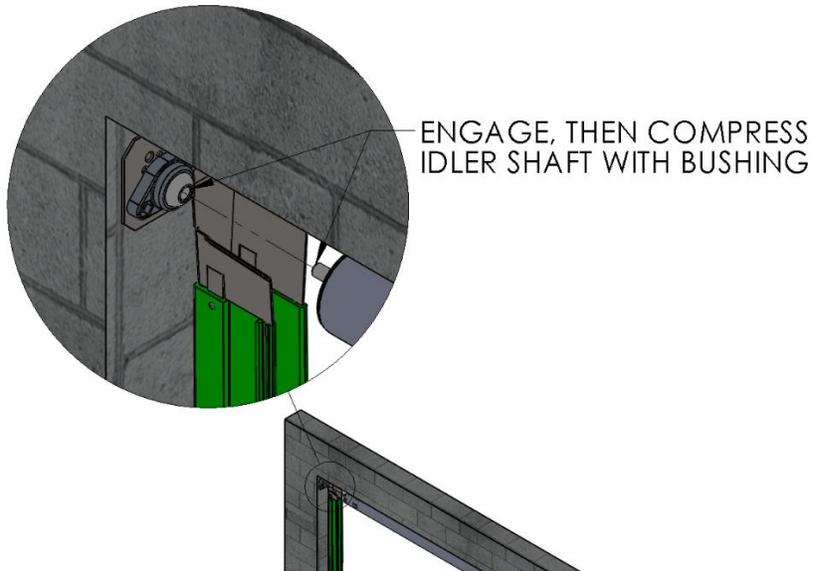

Figure 5 Re-Install Idler Shaft into Nylon Bushing
4. Insert the Idler Shaft into the Nylon Ball, and push to compress the internal spring. (Figure 5 Re-Install Idler Shaft into Nylon Bushing)